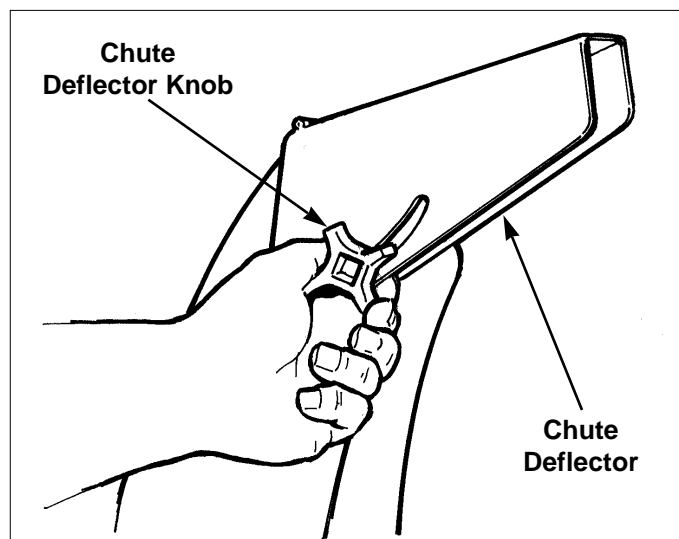

Figure 9. Chute Deflector Adjustment
The distance of the discharged snow is mainly controlled by the position of the deflector (Figure 9). (Engine speed also affects distance of discharge.)
3. To ENGAGE the traction drive lock, insert the pin through the hub and axle (See Figure 9). If the hole in the hub is not aligned with the inner hole in the axle, push the snowthrower until the holes align and install the Traction Lock Pin.